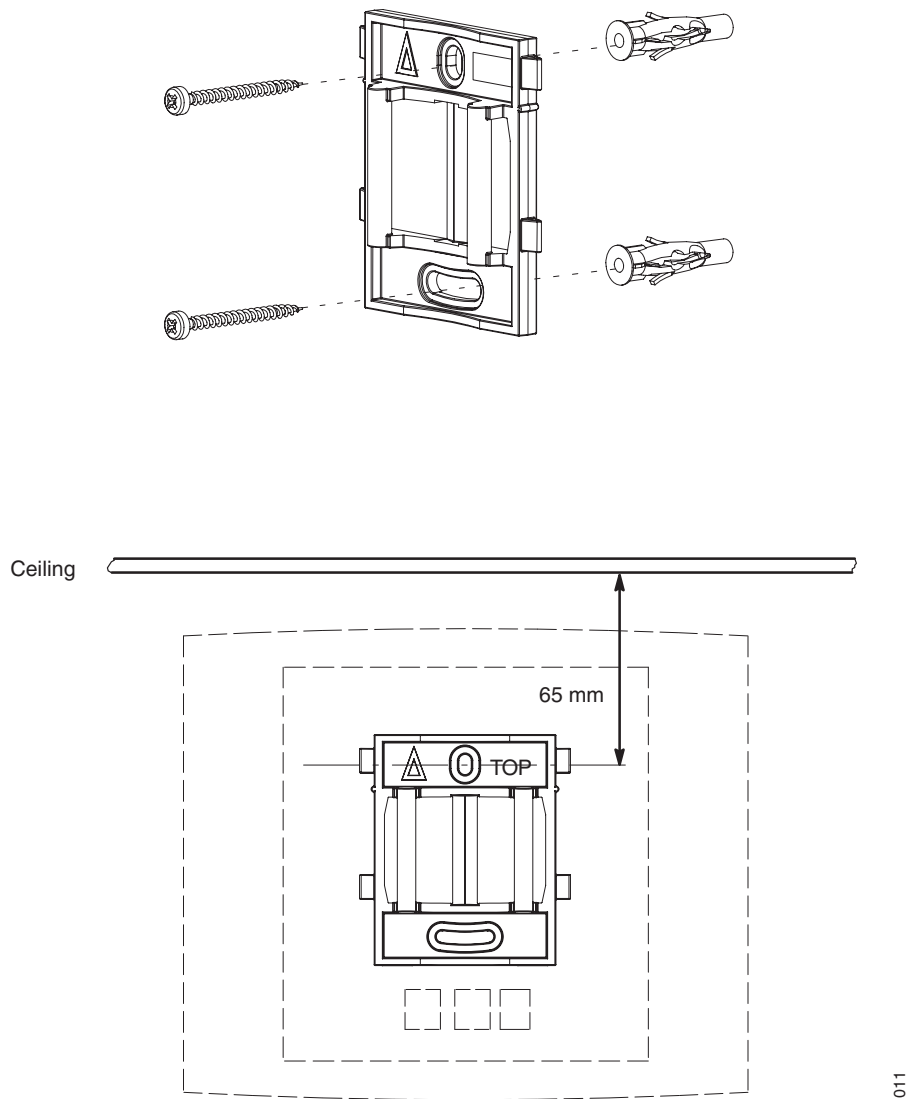

Figure 4. Fixing the mounting bracket to a wall
Fix the mounting bracket (see figure 4 on page 19) to the wall as follows:
- 1 Hold the mounting bracket with its flat side against the wall with the text 'TOP' upwards and mark the two holes. The minimum distance between the upper hole and the ceiling or any object above the base station must be at least 65 mm, see Figure 4. If the distance is less than 65 mm, the base station cannot be slid onto the bracket.